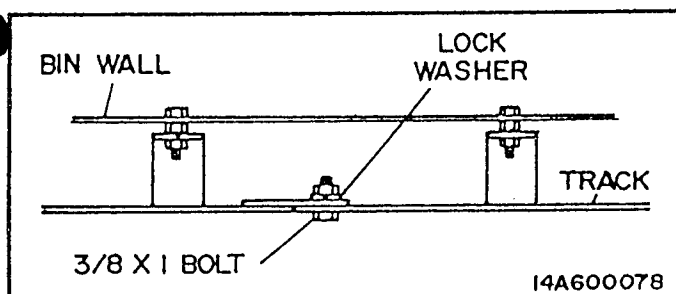

FIG. 3 - TRACK SPLICE.
- Join sections together with 3/8" x 1" bolt, lock washer, and nut. Do not tighten at this time. **MAKE SURE THAT THESE BOLTS ARE MOUNTED POINTING OUTWARD TOWARD BIN WALL TO AVOID OBSTRUCTING CROSSTUBE.** Fig. 3
- Mount second segment of track in place. Join sections together with 3/8" x 1" bolt, lockwasher, and nut. Tighten at this time. **MAKE SURE THAT THESE BOLTS ARE MOUNTED POINTING OUTWARD TOWARD BIN WALL TO AVOID OBSTRUCTION CROSSTUBE.** Fig. 3.